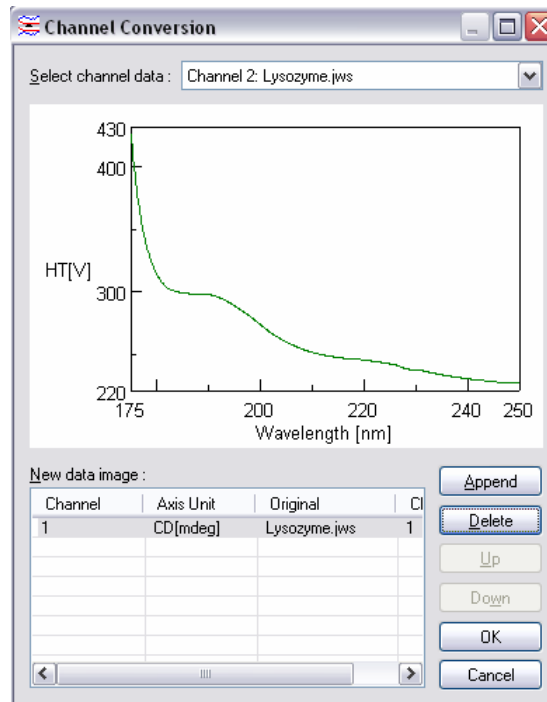

Figure 7.16 [Channel Conversion] dialog box
- (3) Select the desired spectrum from the list in [Selected channel data] (located at the top of the dialog box shown in Fig. 7.16). Clicking the arrow on the extreme right displays the list.
- (4) Click the <Append> button. The selected spectrum is listed in [New data image] view (see Fig. 7.16, for example).
- (5) Click the <OK> button. The following spectrum is obtained.
- (6) Update the selected file by repeating the procedure from step (3) (click the <Append> button in the dialog box shown in Fig. 7.16). Fig. 7.16 becomes as follows.